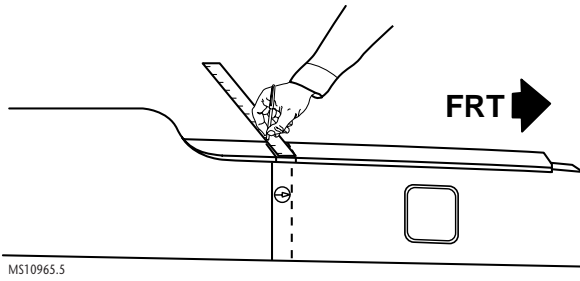

Figure 5-4:
- 1 Measure from the die-marks to add 20mm ($\frac{3}{4}$ in) in length to the service part. Align marks with a straight edge and scribe line for sectioning cut (figure 5-4).